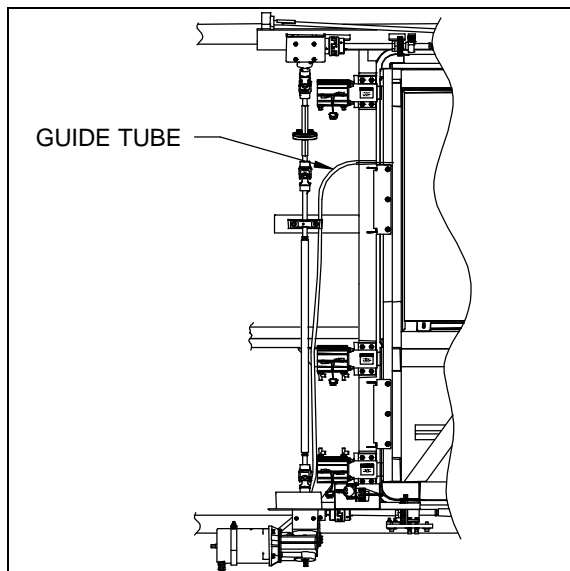
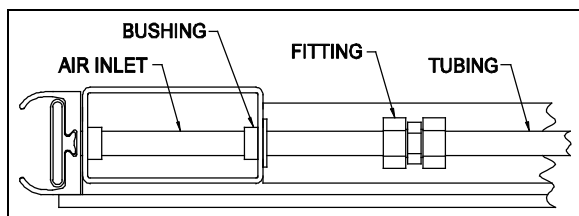

FIGURE 32 : FRONT SLIDE-OUT INFLATABLE SEAL AIR INLET
FIGURE 33 : REAR SLIDE-OUT INFLATABLE SEAL AIR INLET
The front slide-out inflatable seal air inlet is located in the third baggage compartment on the driver side close to the front slide-out electric motor (figure 32). The rear slide-out inflatable seal air inlet is located on the structure post facing the rear of the vehicle (figure 33).
2. Unplug the tubing from the inflatable seal air inlet (figure 32 and figure 33). Keep the bushing.
9. Replace the bushing and plug the pneumatic tubing on the inflatable seal air inlet (figure 32 and figure 33).